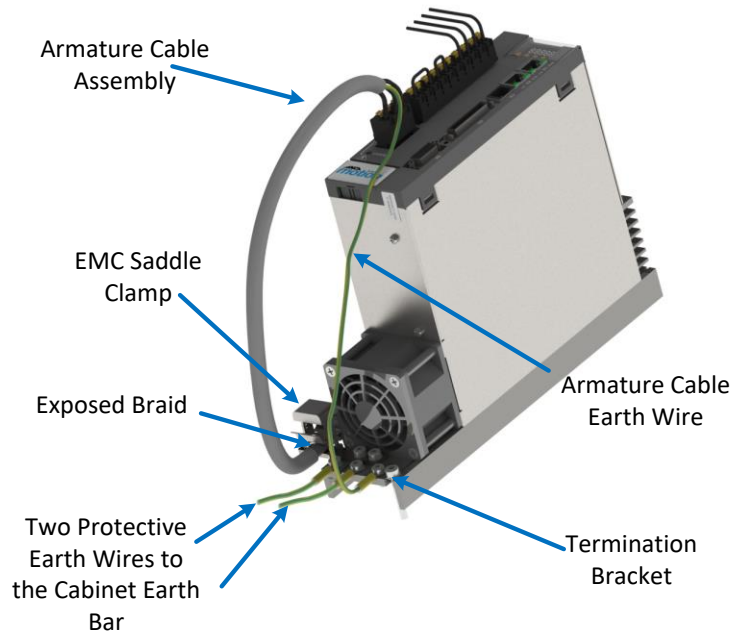

Figure 6-22 D2015 Armature Cable Shield Connection with Two PE Wires
- The position of the exposed braid is to coincide with the EMC Saddle Clamp and the plate to provide sufficient contact for termination (see Figure 6-22).
- Ensure that the armature cable earth wire is connected to an M4 ring lug using one M4 screw provided and connect to the heatsink as shown in Figure 6-22. The maximum tightening torque is 1.5 Nm.